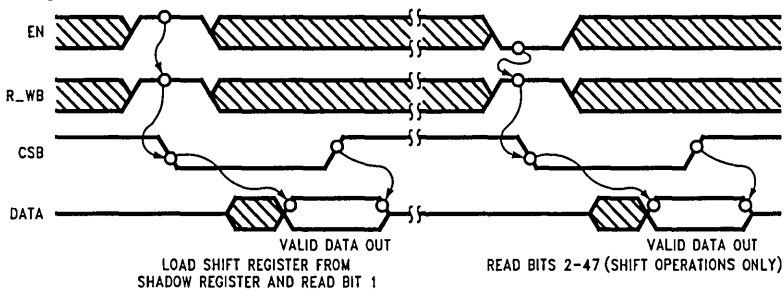

FIGURE 3-3. Control Register Read Operations
- Figure 3-3 Control Register Read Operations